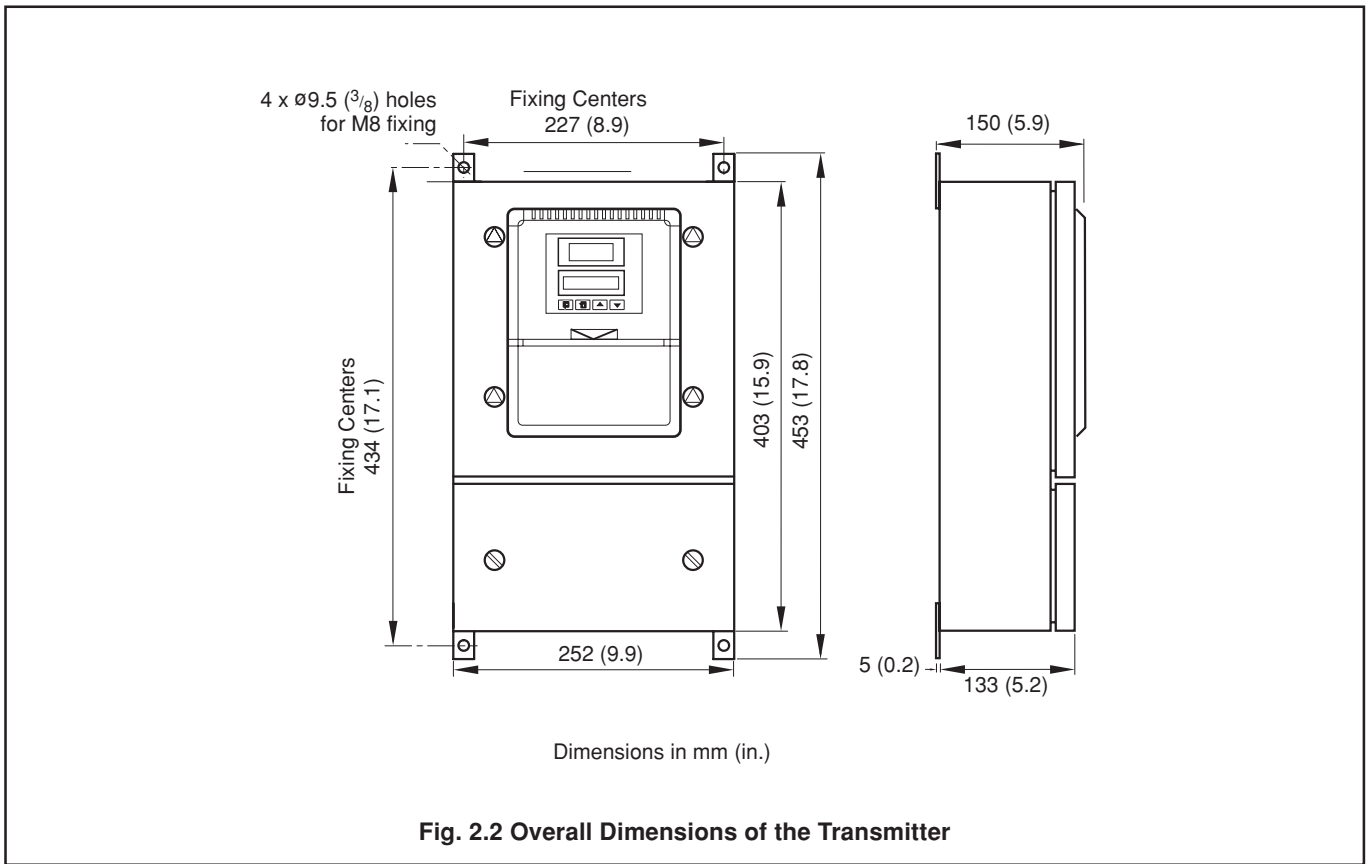
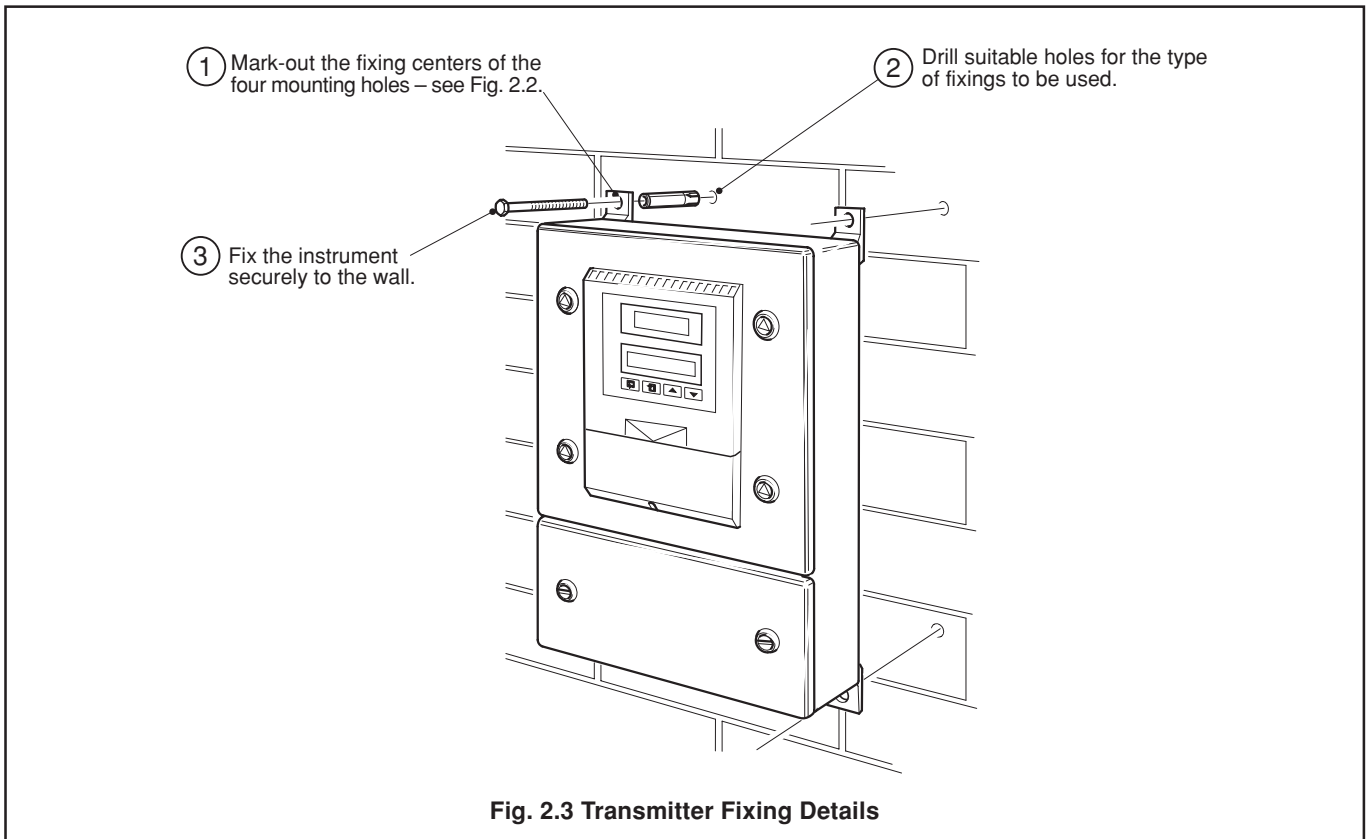

Fig. 2.2 Overall Dimensions of the Transmitter
Fig. 2.3 Transmitter Fixing Details
2.2 Installing the Transmitter – Fig. 2.2 and Fig. 2.3